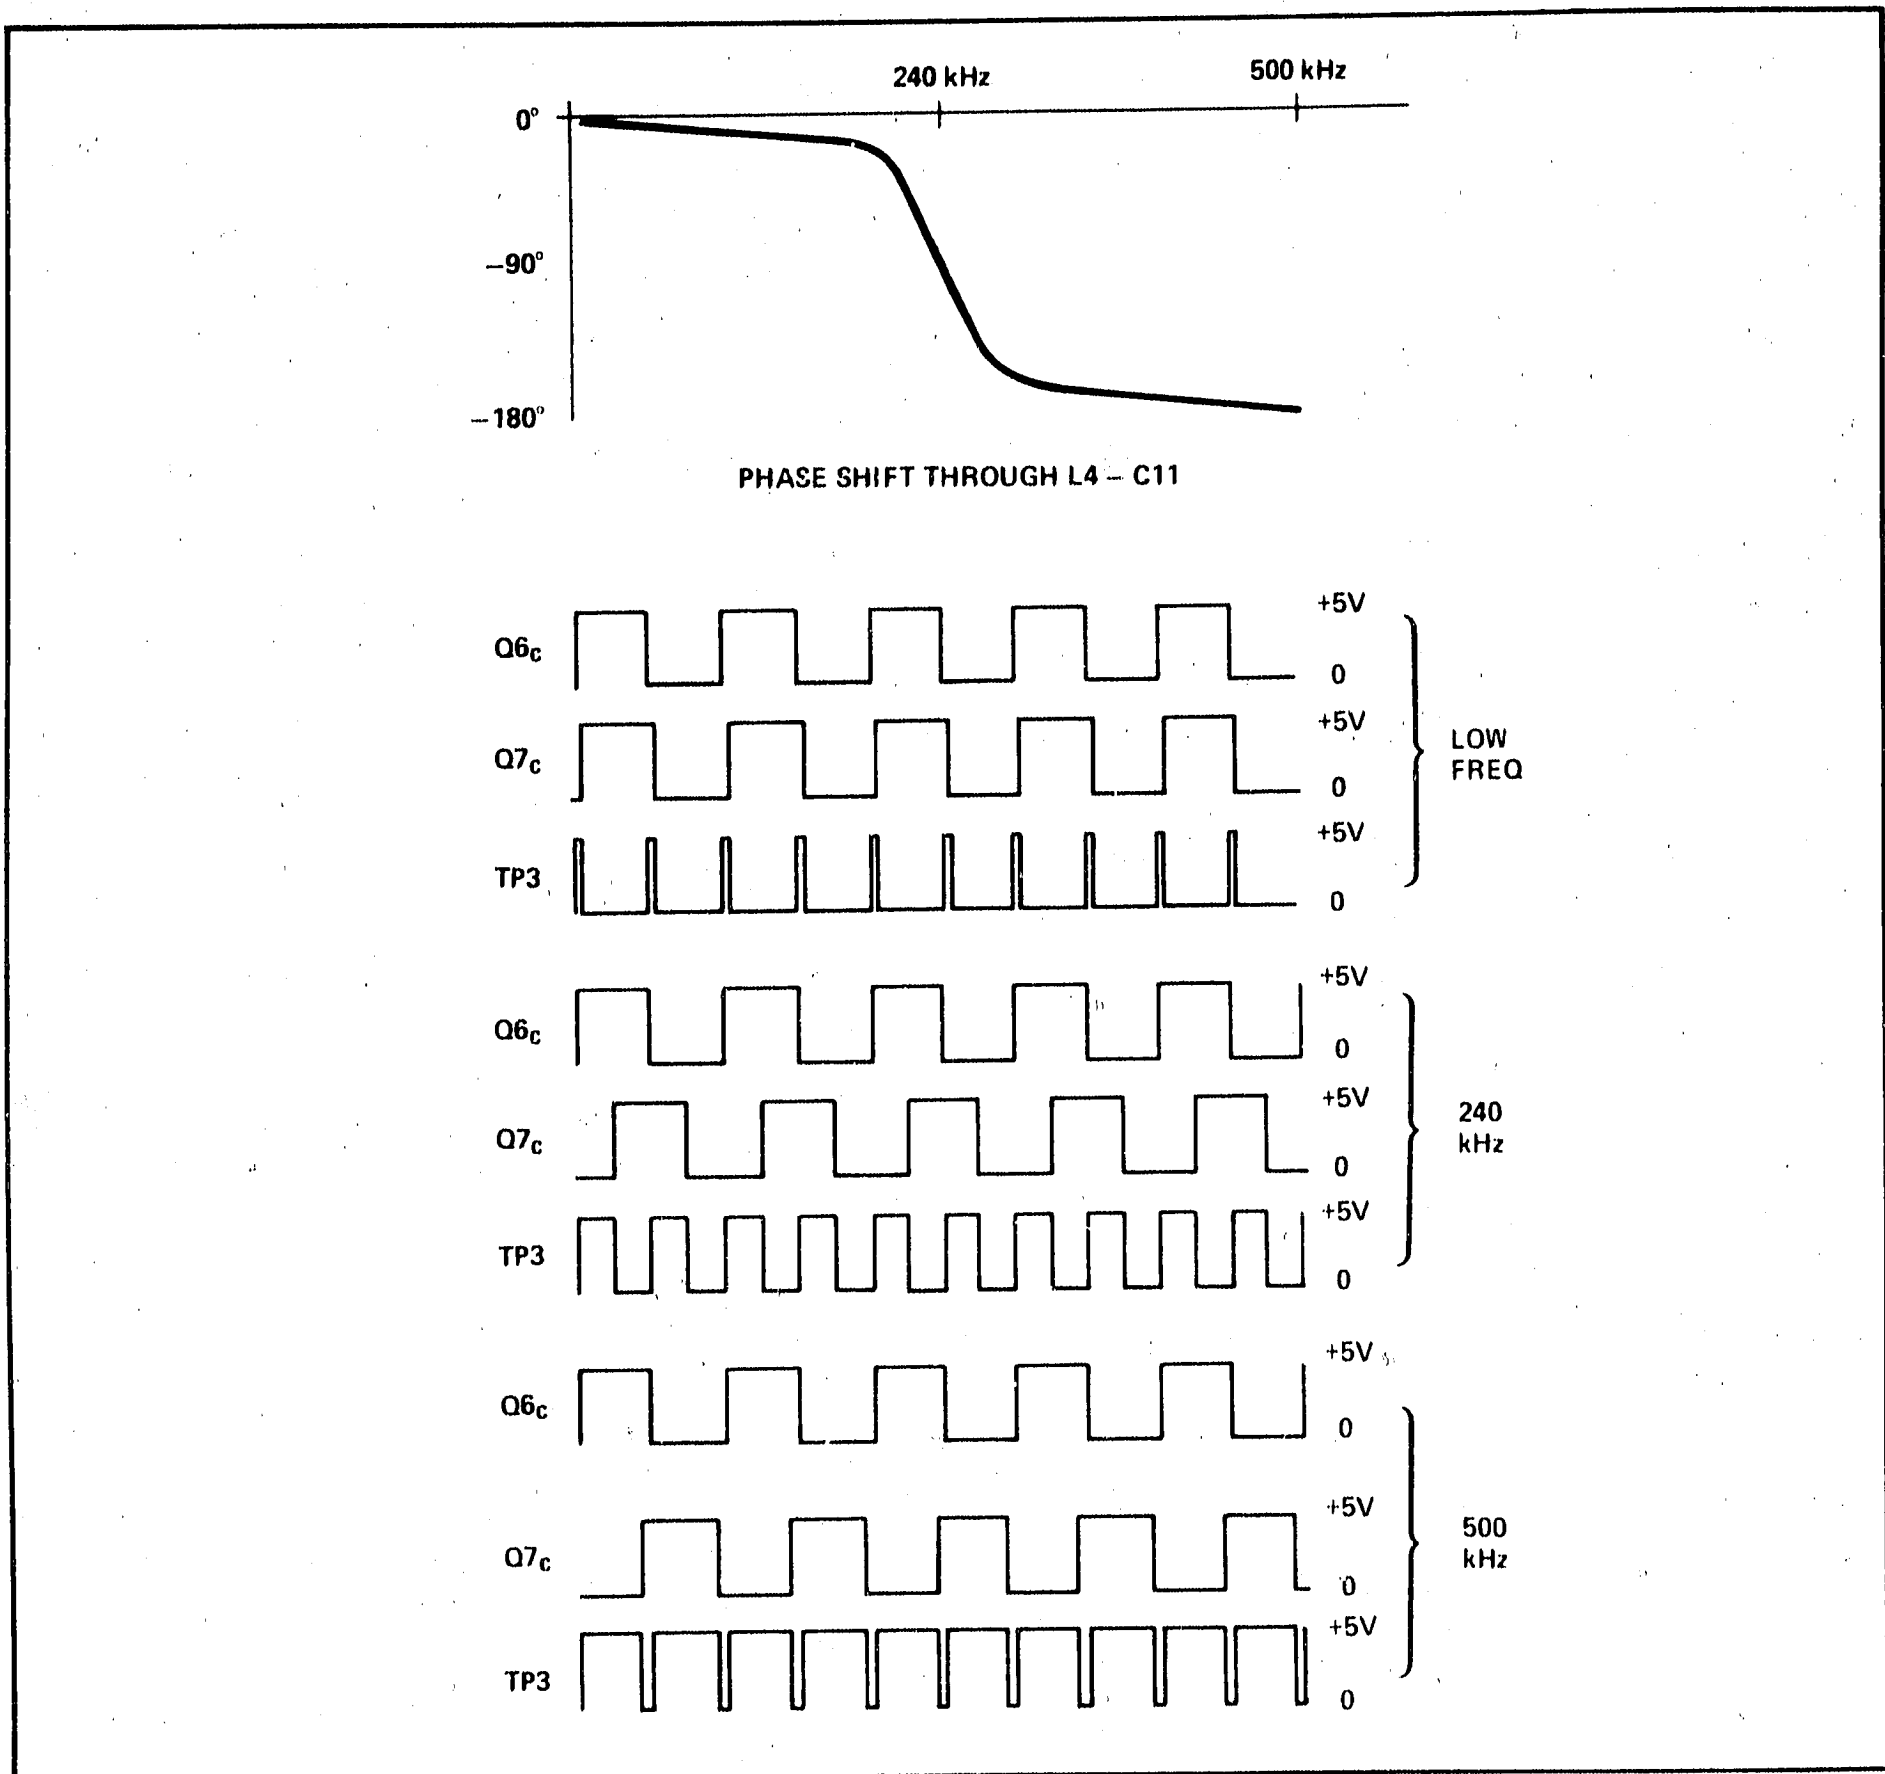

Figure 8-95. Discriminator Wave Shapes
**EXCLUSIVE OR** (K). A1U2 is a quad NAND gate integrated circuit connected as an EXCLUSIVE OR circuit. Its output is high when the two inputs are different, and low when they are the same. The output of the EXCLUSIVE OR circuit at A1TP3 has a dc component with an average value that is a function of frequency (see Figure 8-95).
The signal at A1TP1 should be a sine wave, 0.15V to 0.3V peak-to-peak, for frequencies between 1 and 500 kHz. The voltage level should decrease rapidly as the frequency is increased above 500 kHz. Observe signals at collectors of A1Q6 and A1Q7 with a dual-channel oscilloscope. The signals should be 0 to +5V square waves. As the oscillator frequency is varied, the phase relationship of the square waves should vary as follows: at low frequency, the square waves should be almost in phase; at 240 kHz they should be approximately 90 degrees out of phase; at frequencies approaching 500 kHz they should be nearly 180 degrees out of phase. Also note how the average value of the EXCLUSIVE OR output at A1TP3 increases as the oscillator frequency is increased (see Figure 8-95).